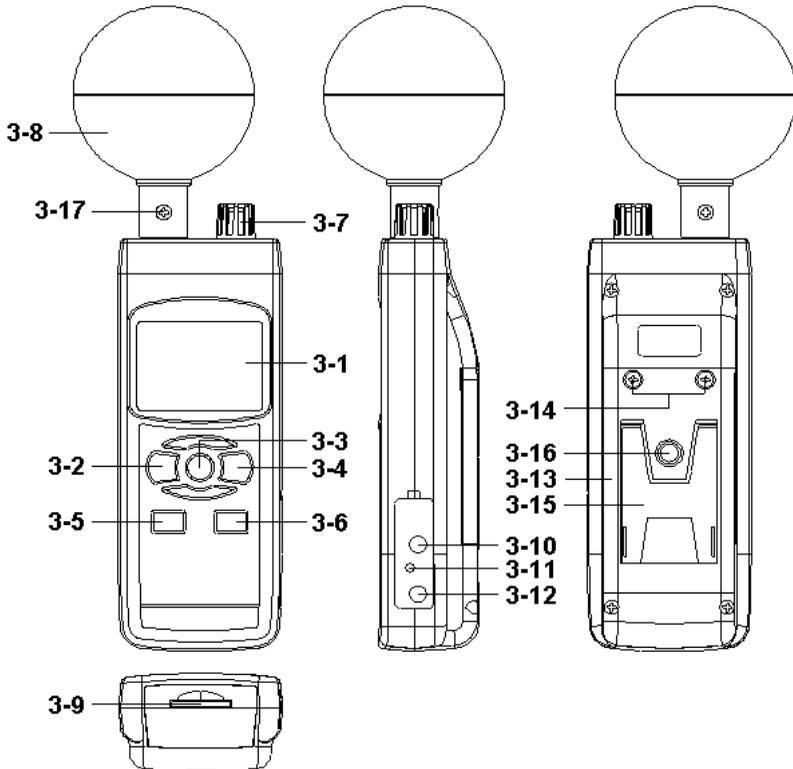

Fig. 1
(3-2, Fig. 1) momentarily.
** Pressing the " Power Button " (3-2, Fig. 1)
Pressing the " Function Button " (3-3, Fig. 1)
just release the " Function Button " (3-3, Fig. 1), the
- 1) Power on the meter by pressing the " Power Button " (3-2, Fig. 1).
- * *After power on, then press the " Power Button " (3-2, Fig. 1) > 2 seconds will power off.*
- * During make the WBGT measurement, if pressing the " in/Outdoor Button " (3-4, Fig. 1) continuously will select the " indoor WBGT " or " outdoor WBGT " function.
(3-2, Fig. 1).
3-7, Fig. 1.
Black ball, 3-8, Fig. 1.
During the measurement, press the " Hold Button " (3-3, Fig. 1) once will hold the measured value & the LCD will display a " HOLD " symbol.
- 1) The data record function records the maximum and minimum readings. Press the " REC Button " (3-4, Fig. 1) once to start the Data Record function and there will be a " REC " symbol on the display.
- a) Press the " REC Button " (3-4, Fig. 1) once, the " REC MAX " symbol along with the maximum value will appear on the display.
If intend to delete the maximum value, just press the " Hold Button " (3-3, Fig. 1) once, then the display will show the " REC " symbol only & execute the memory function continuously.
- b) Press the " REC Button " (3-4, Fig. 1) again, the " REC MIN " symbol along with the minimum value will appear on the display.
If intend to delete the minimum value, just press the " Hold Button " (3-3, Fig. 1) once, then the display will show the " REC " symbol only and execute the memory function continuously.
After power ON, the " LCD Backlight " will light automatically. During the measurement, press the " Backlight Button " (3-2, Fig. 1) once will turn OFF the " LCD Backlight " .
Prepare a " SD memory card " (1 GB to 16 GB, optional), insert the SD card into the " SD card socket " (3-9, Fig. 1). The front panel of the SD card should face against the the down case.